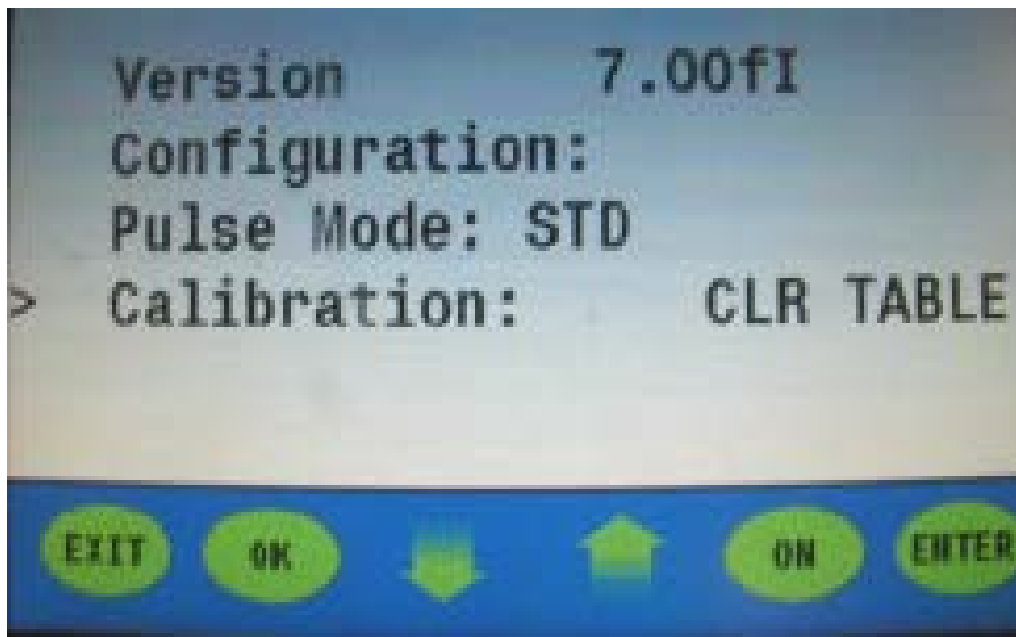

Figure 6
10. Press the **up** or **down arrow**; select "CLR Table" (**figure 6**).